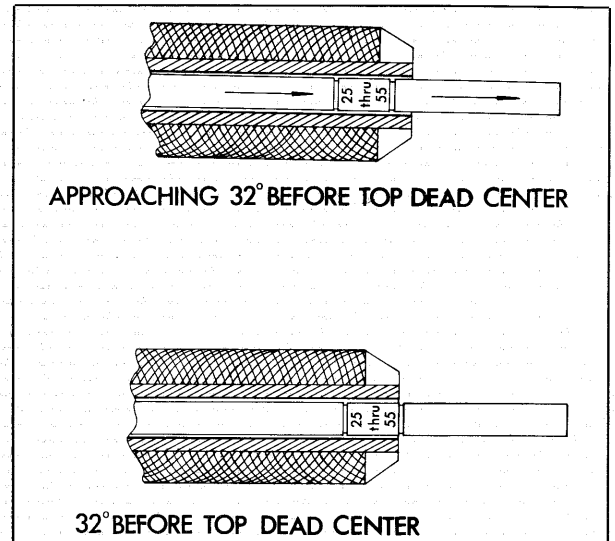

Figure 2 - Establishing 32° BTDC
- E. Apply slight pressure to end of rod with finger and turn flywheel clockwise in direction of engine rotation approximately three-quarters of the way around until outer line of rod lines up with edge of barrel. This line represents 32° before top dead center (BTDC). See figure 2.